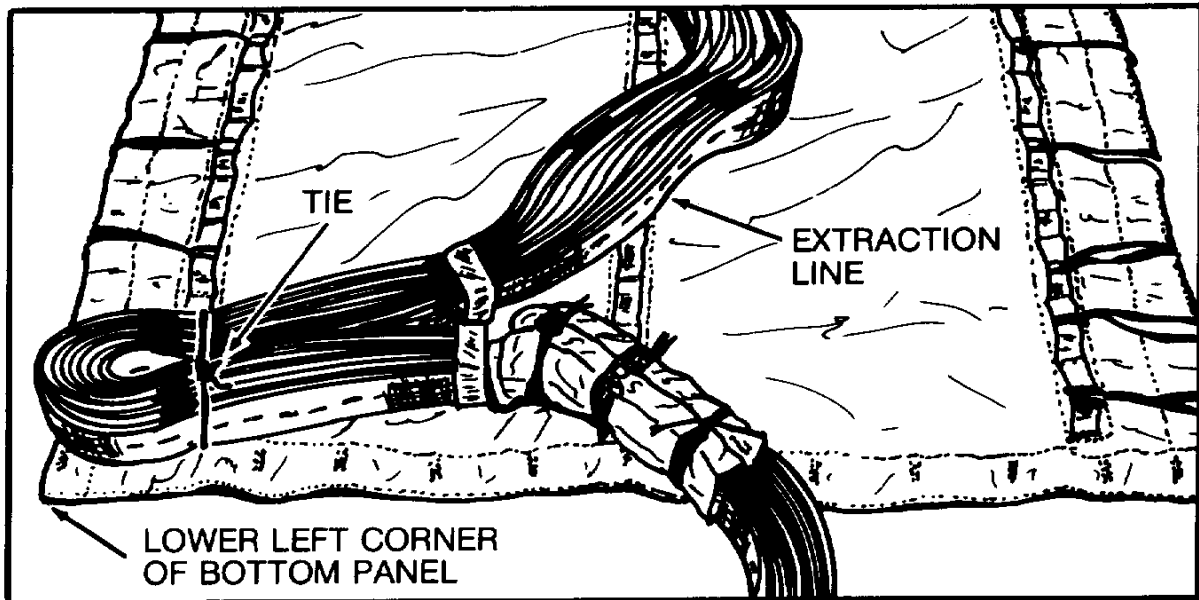

Figure 4. S-Fold of Extraction Line.
- d. Beginning at lower left corner of bottom panel, make first S-fold/stow of the extraction line and secure with a previously installed, stow tie (figure 4).